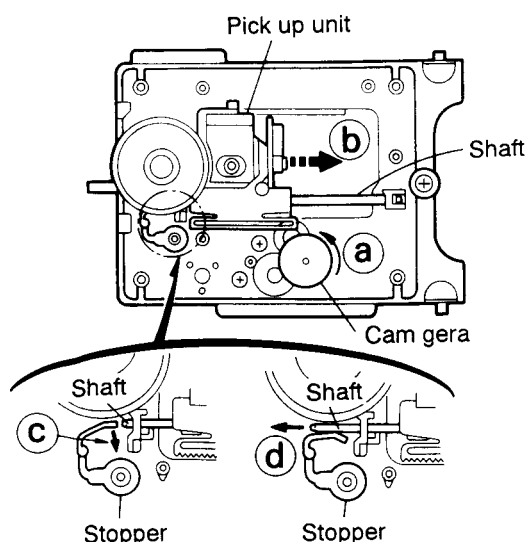

Fig. 5-34a
■ Removing the CD pickup unit (See Fig. 5-34a)
1. Move the cam gear in the arrow direction ①. Then, the CD pickup unit will be moved in the arrow direction ②.
2. According to the above step, shift the CD pickup unit to the center position (Fig. 5-34a).
3. While pressing the stopper retaining the shaft in the arrow direction ③, pull out the shaft in the arrow direction ④ (See Fig. 5-34a).